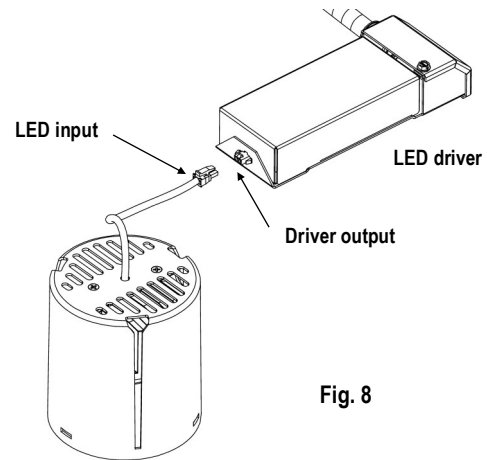

Fig. 8
- Connect to LED input plug to driver output plug. Ensure correct plug orientation and polarity while making connection. (Fig. 8)